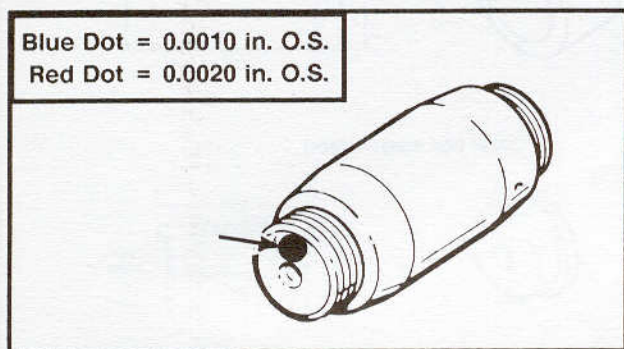

Figure 3-70. Oversize Crank Pin Identification
See Figure 3-70. Oversize (OS) crank pins are available in two oversizes: 0.0010 in. OS and 0.0020 in. OS. OS crank pins will have a blue or a red dot painted on their ends. A blue dot indicates 0.0010 in. OS, a red dot indicates 0.0020 in. OS. Standard size crank pins will not be marked.